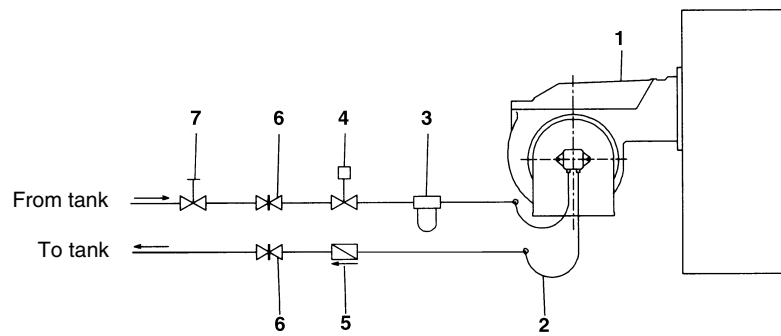

Fig. 16
**NOTE:** in plants where gravity or ring feed systems are provided, install an automatic interception device (see n. 4 - Fig. 16).